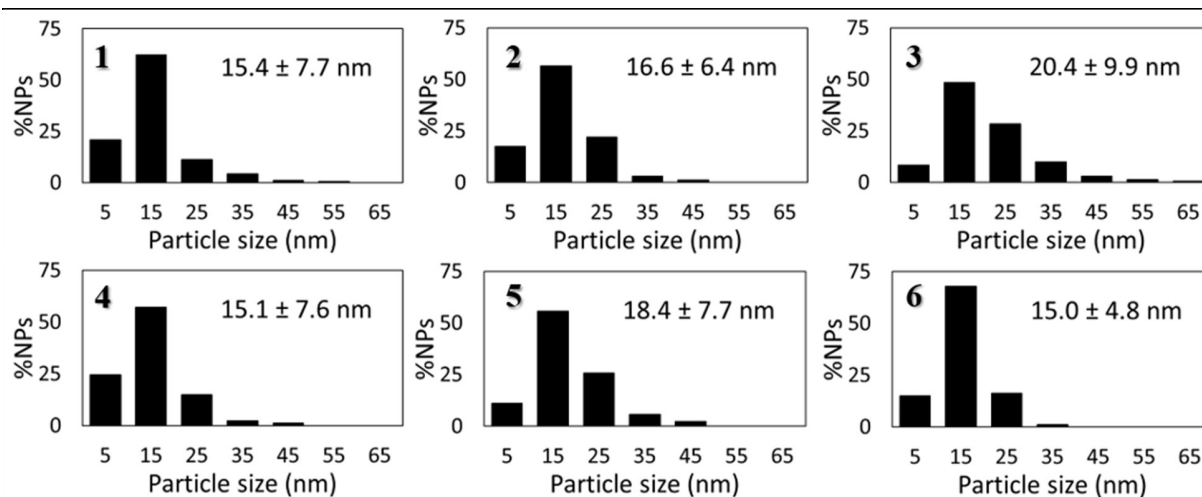

Figure S4. Study of the solutions concentration effect (as detailed in Table S1) on the distribution of particle sizes determined by TEM.
- Figure S4. Study of the solutions concentration effect (detailed in the table S1) on the distribution of particle sizes determined by TEM.